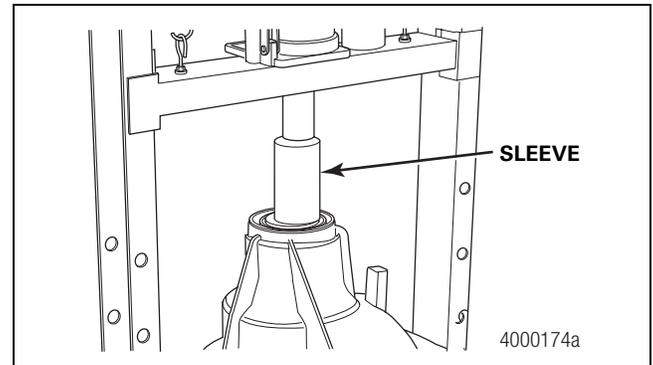

Figure 5.9
- Using a sleeve that is the same size as the bearing cone, press the bearing onto the pinion shaft until it is fully seated in the carrier. Figure 5.9.